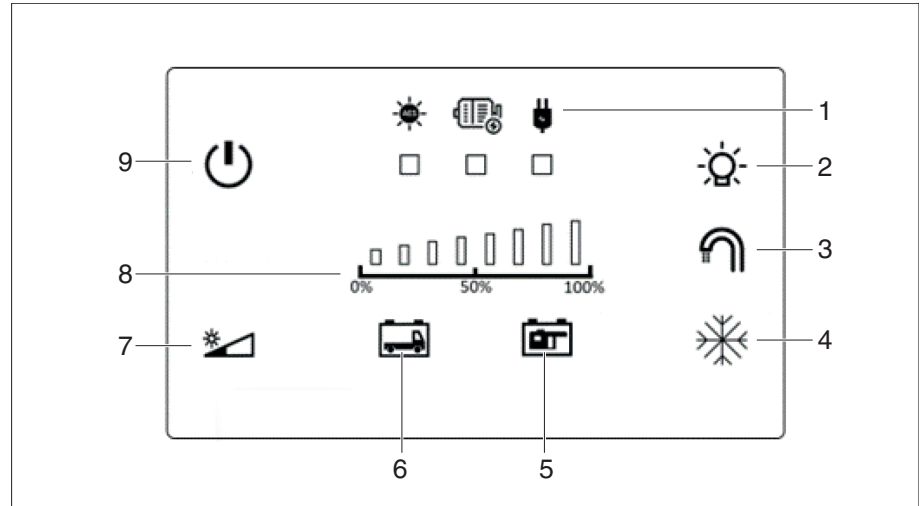

Fig. 59 Control panel D110
The control panel uses signal LEDs (Fig. 59,1) to indicate which power source is being used to charge the living area battery.
The power button (Fig. 59,9) is used to switch the control panel on and off. The lighting is set to medium brightness as standard and can be manually adjusted by pressing the dimming button (Fig. 59,7). Regardless of the configured brightness level, the lighting is dimmed when inactive and reactivated by pressing any button. The most recently set brightness level will be maintained. The dimming button (Fig. 59,7) is always yellow, except in night mode.
The control panel switches to night mode when the dimming button is pressed and held down (Fig. 59,7). Only the dimmer button is illuminated dimly in red to avoid confusion with a switched-off control panel.
If the battery voltage is very low, the control buttons (Fig. 59,5) and (Fig. 59,6) will flash on the control panel.
- Press the control button (Fig. 59,5).
The charging status of the corresponding battery will be displayed on the LED control display (Fig. 59,8).
If the starter battery voltage is very low, the corresponding control button (Fig. 59,6) on the control panel flashes white. If the vehicle is connected to solar or shore power, the electrical box ensures that the starter battery remains charged. In order to fully charge the battery, the vehicle needs to move to permit charging to take place via the alternator.
If the living area battery voltage is very low, the corresponding control button (Fig. 59,5) on the control panel flashes red. If the living area battery is not charged, the battery voltage will sink again. Battery protection engages once the battery reaches a critical value.